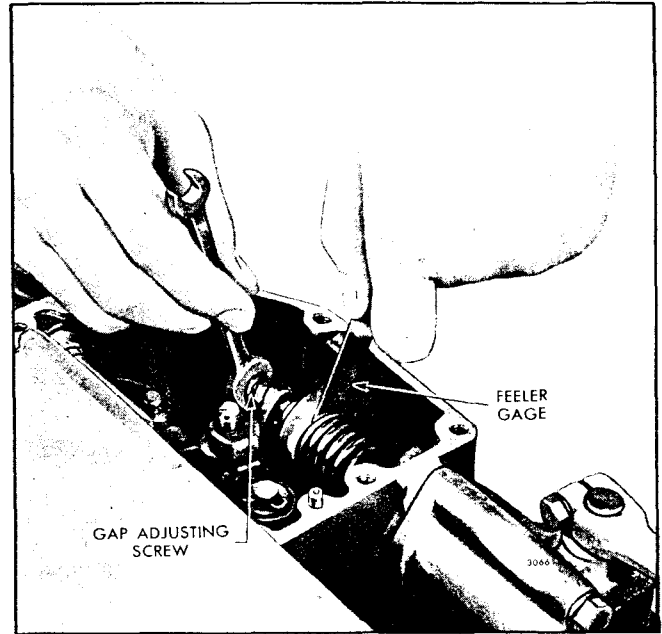

Fig. 2 - Adjusting Governor Gap
4. Insert a .006" feeler gage between the spring plunger and the plunger guide as shown in Fig. 2. If required, loosen the lock nut and turn the adjusting screw in or out until a slight drag is noted on the feeler gage.